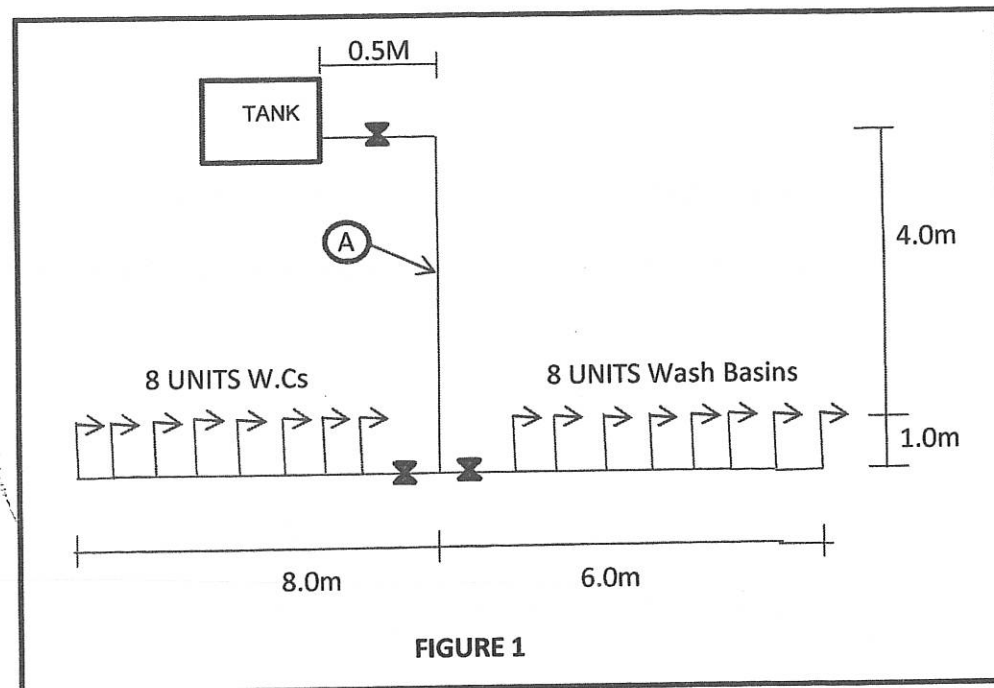

FIGURE 1
- (c) Determine the diameter of the main cold water supply pipe for a single storey office block shown in Figure 1. (Refer Table A, B, C and D).